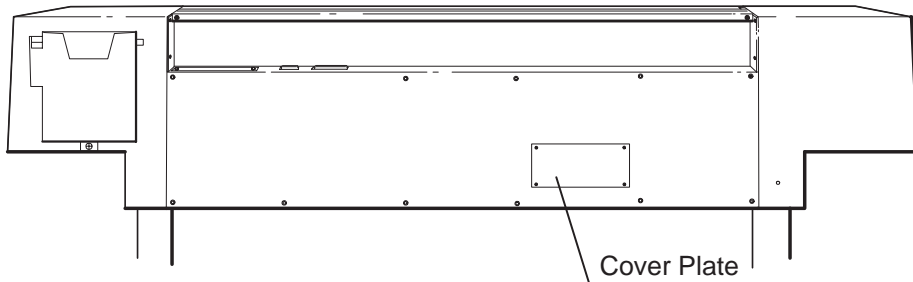

Figure 6-1.
1. Using a small flat blade or Torx T10 screwdriver, remove the four screws that attach the cover plate to the back of the plotter and remove the cover plate. See Figure 6-1.